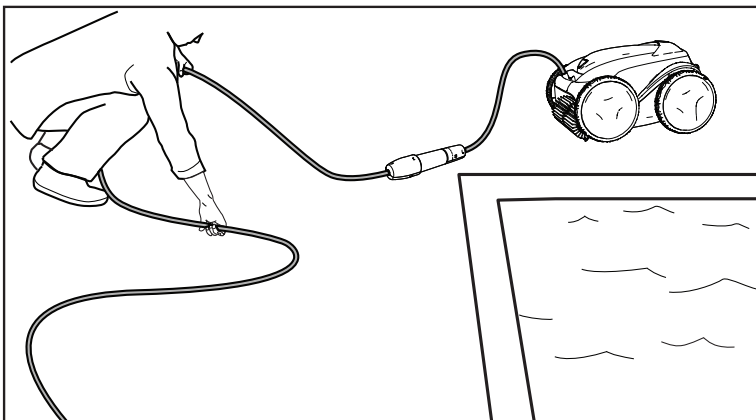

Figure 20. Untangle
4. Remove the cleaner from the pool and untangle all kinks and coils in the power cable (Figure 20). Start at the cleaner head. Lay the cable in the sun to loosen any tangling memory.